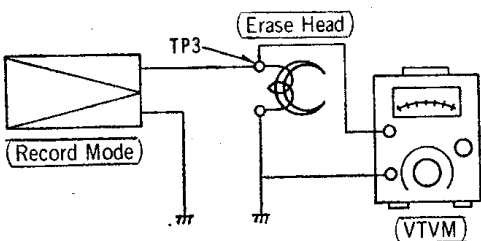

Figure 8
**Bias oscillator frequency.** Connect frequency meter to test point TP3 (Figure 8). Select "RECORD". Frequency should be between 73 and 87kHz.